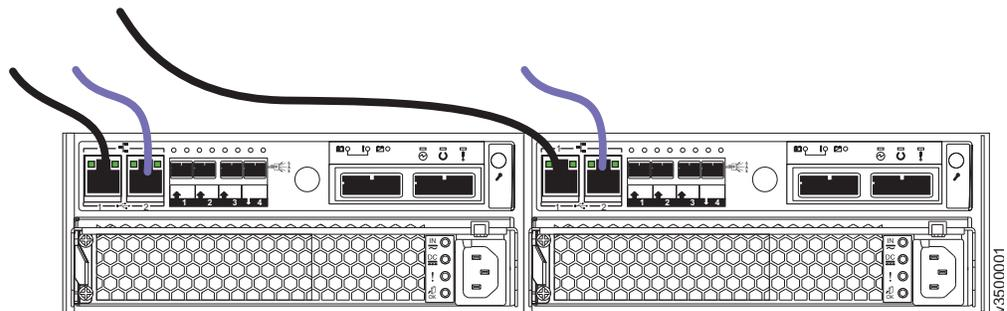

Figure 30. Connecting the Ethernet cables
1. Connect Ethernet port 1 of each node canister in the system to the IP network that will provide connection to the system management interfaces, as shown in Figure 30. This port can also be used for iSCSI connectivity to the system by hosts on the network. Where more than one control enclosure is present in the system, ensure port 1 of every node canister is connected to the same network to provide access if the configuration node fails.
management interfaces, as shown by the lighter cable connection in Figure 30 on page 44. This port can also be used for iSCSI connectivity to the system by hosts on the network. If there is more than one control enclosure in the system, ensure that port 2 of every node canister is connected to the same network to provide access if the configuration node fails.